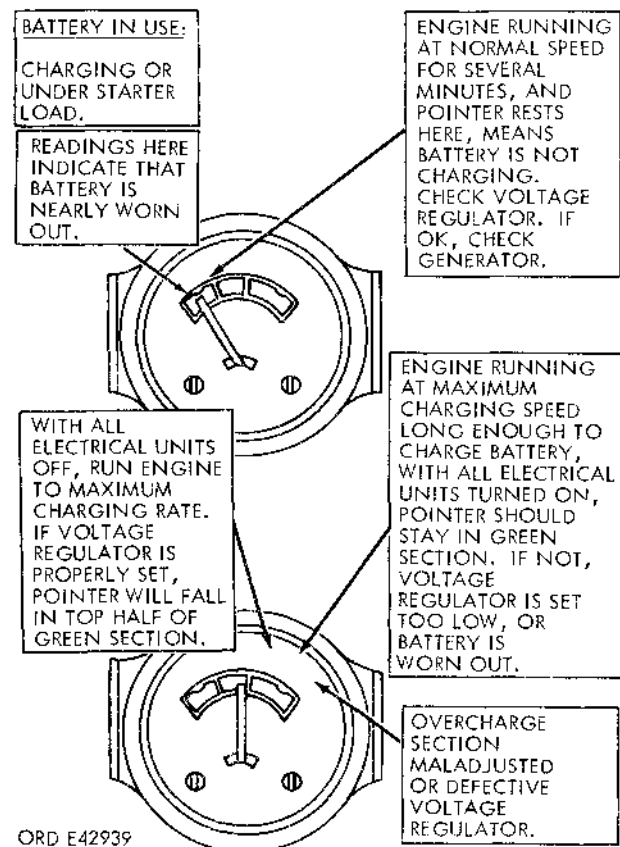
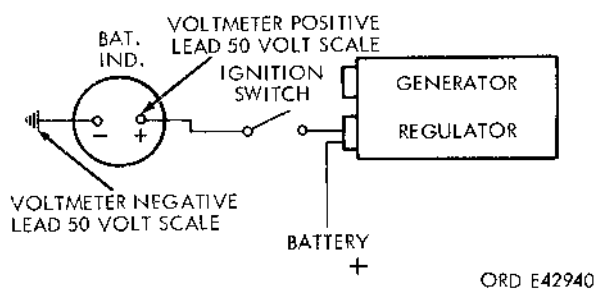

Figure 2-14. Battery indicator.
Figure 2-15. Battery indicator circuit.
b. Turn the ignition switch to ON, and observe the battery generator indicator (fig. 2-14); the indicator pointer should be on the yellow scale or on the edge of the green scale. The indicator pointer should never be on the red scale when the ignition switch is in the ON position.
c. Start the engine and observe the action of the battery indicator. When the engine is operated at approximately 1000 to 1200 rpm, the meter indicator pointer should move toward the green scale or to the right side of the meter (fig. 2-14).
(1) Turn the ignition switch to OFF.
(2) Disconnect the wire at the battery indicator and connect it to the positive lead of a voltmeter (fig. 2-15). With the negative lead of the voltmeter grounded, and the ignition switch ON, the voltmeter should indicate battery voltage.
(3) Start and run the engine at 1,000 to 1,200 rpm; the voltmeter should indicate a generator voltage of 27.5 to 28.5 volts.
(4) If the voltmeter does not indicate generator voltage charge as specified, check the generating system and adjust, replace, or repair components as necessary. The battery indicator wiring is shown in figure 2-15.
(5) If the voltmeter indicates a generator voltage charge as specified, and the battery indicator does not conform to the test in *b* and *c* above, replace the battery indicator (para 2-22 b).